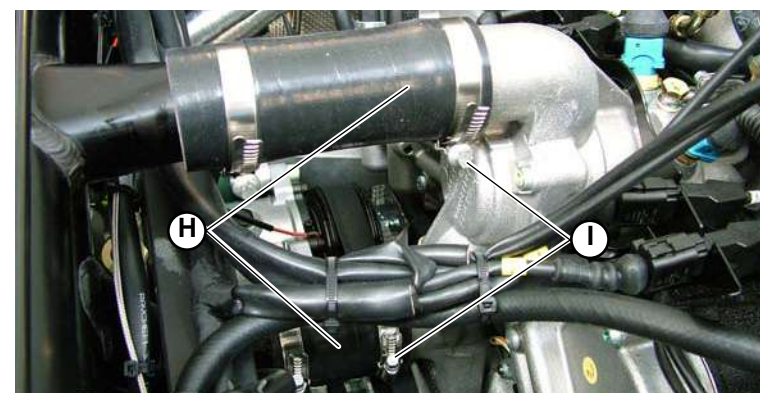

Fig.6
8. Reconnect the water pump delivery and intake pipes (**H-Fig.6**), securing them with the clamps (**I-Fig.6**).